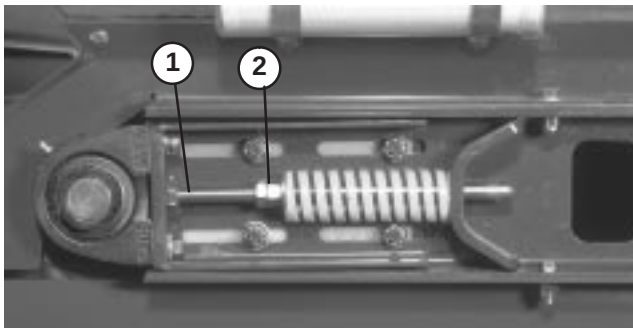

Figure 26
3. Loosen jam nuts and nuts on tension rod to release spring tension (Fig. 26).